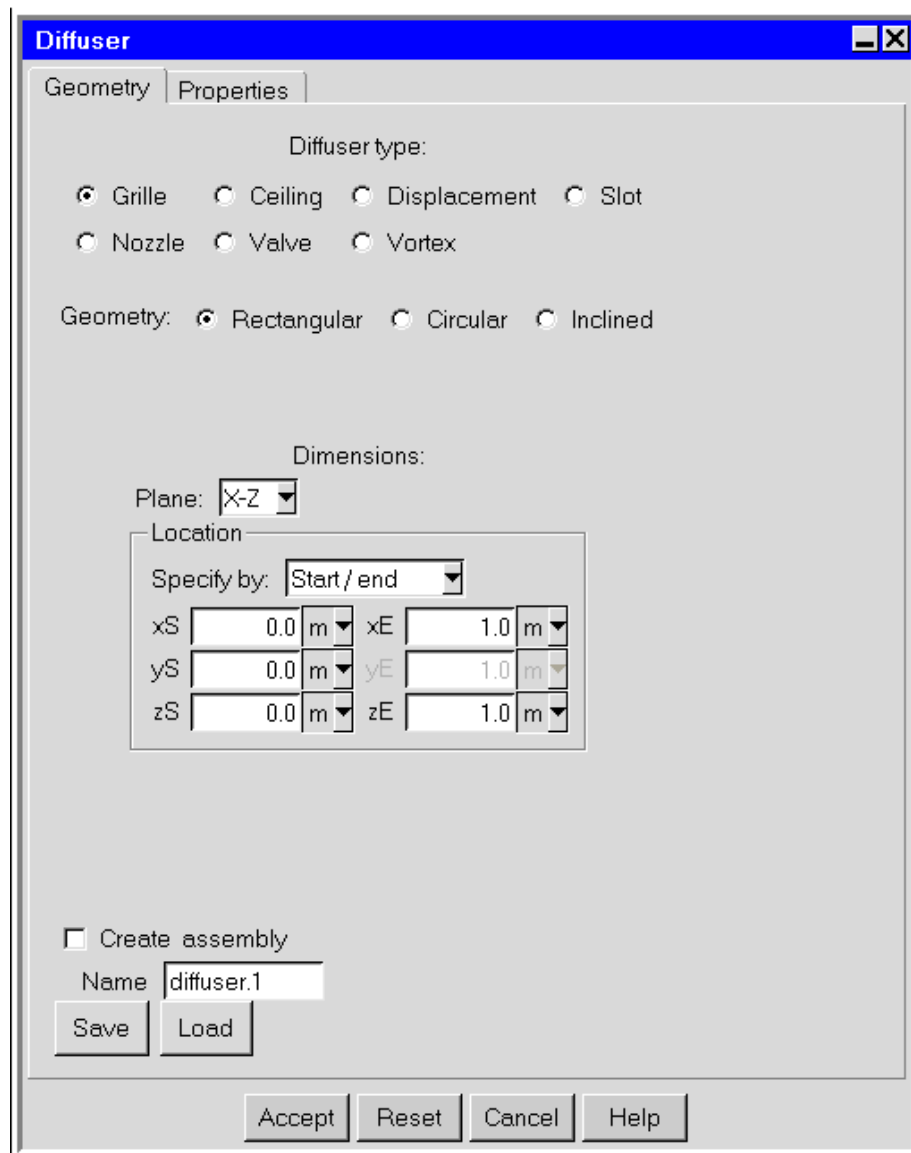

Figure 25.2.2: The Grille Diffuser Panel (Geometry Tab)
To include a diffuser in your **Airpak** model, select **Boundary conditions** and then **Diffuser** in the **Macros** menu. This will open the **Diffuser** panel, shown for the different types of diffusers in Figures 25.2.2–25.2.14.
1. Specify the **Diffuser type** by selecting **Grille**, **Ceiling**, **Displacement**, **Slot**, **Nozzle**, **Valve**, or **Vortex**. The panel will change (as shown in Figures 25.2.2–25.2.14) depending on your selection of **Diffuser type**. Note that each **Diffuser type** panel has two tabs: **Geometry** and **Properties**.
The geometry types that are available will depend on which type of diffuser you are using. See Figures 25.2.2–25.2.14 and below for details. The inputs for the standard **Airpak** geometries are described in Section 7.4.4. See Section 7.3.6 for details on resizing an object and Section 7.3.7 for details on repositioning an object. one